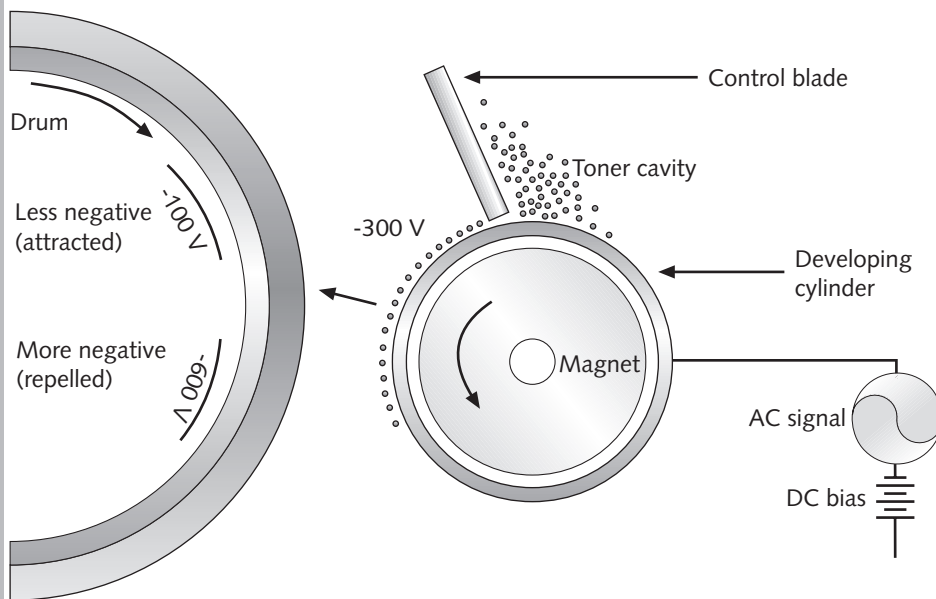

Figure 18-5 In the developing step, charged toner is deposited onto the drum surface
Step 4: Developing. Figure 18-5 shows the developing step, in which toner is applied by the developing cylinder to the discharged (-100 V) areas of the drum. Toner transfers from the cylinder to the drum as the two rotate very close together. The cylinder is coated with a layer of toner, made of black resin bonded to iron, which is similar to the toner used in photocopy machines. The toner is held on the cylinder surface by its attraction to a magnet inside the cylinder. (A **toner cavity** keeps the cylinder supplied with toner.) A **control blade** prevents too much toner from sticking to the cylinder surface. The toner on the cylinder surface takes on a negative charge (between -200 V and -500 V) because the surface is connected to a DC power supply called the DC bias.